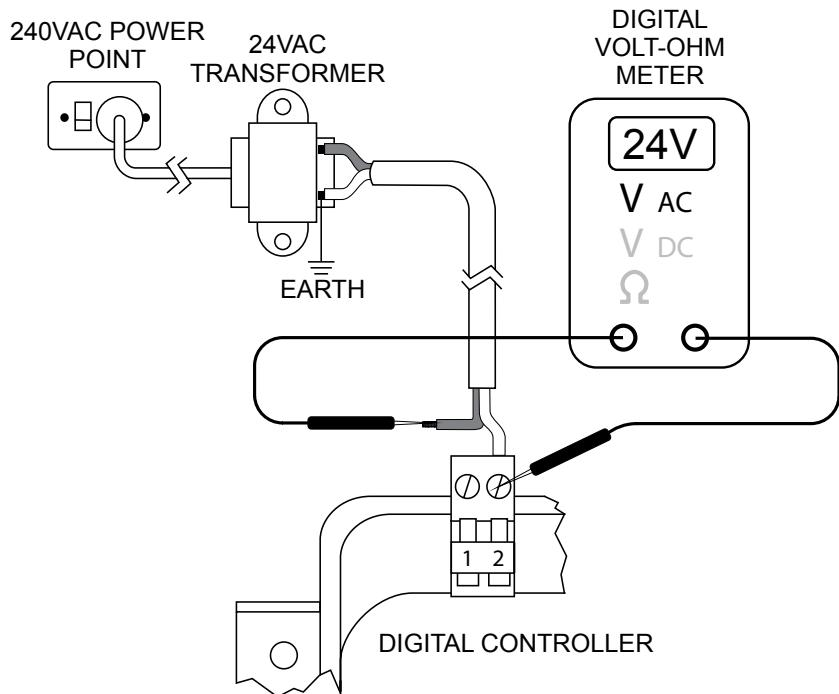

Figure 4-1: Checking Power Input
3. Disconnect the power lead from Terminal 1 (Figure 4-1).